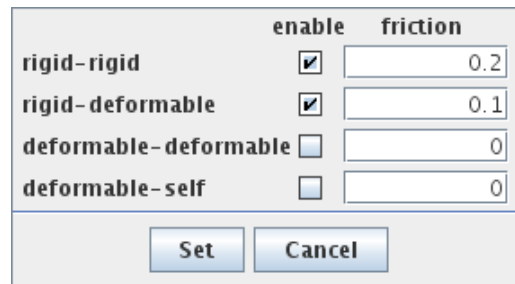

Figure 77: Dialog for setting default collision behavior in a MechModel.
- For default behaviors, the enabled and friction properties can be edited by selecting the `MechModel` and then choosing “Set default collisions ...” from the context menu. This will open the dialog shown in Figure 77, allowing the enabled and friction properties to be adjusted. For the example shown, collisions are enabled between all rigid bodies, with a friction coefficient of 0.2, and between all rigid and deformable bodies, with a coefficient of 0.1. Other collisions are disabled.